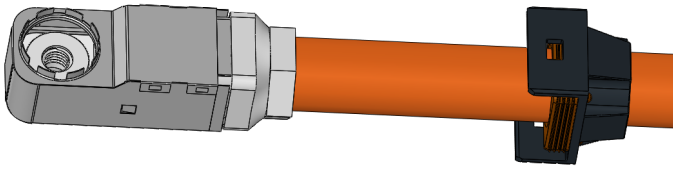

Figure 8.1
Step 8: Repeat step 1 to step 7 for another port (Figure 8.1)